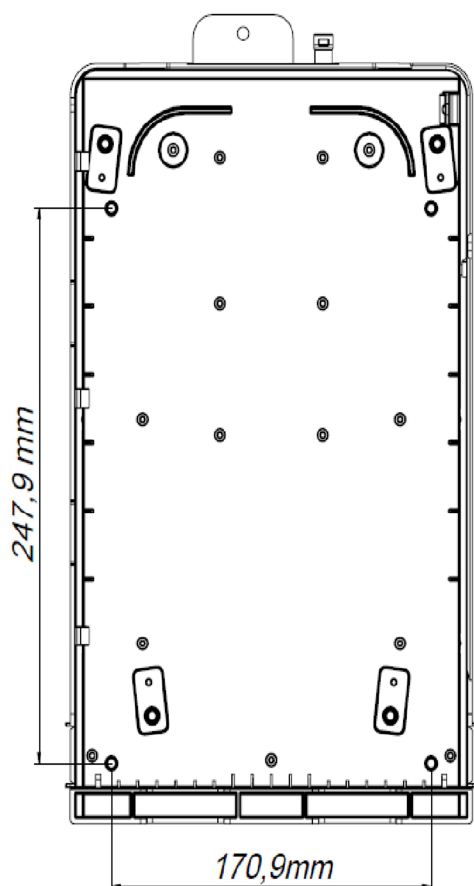

Figure 6
1.1.5 Secure the base to the wall. The distance between holes is shown in Figure 6.